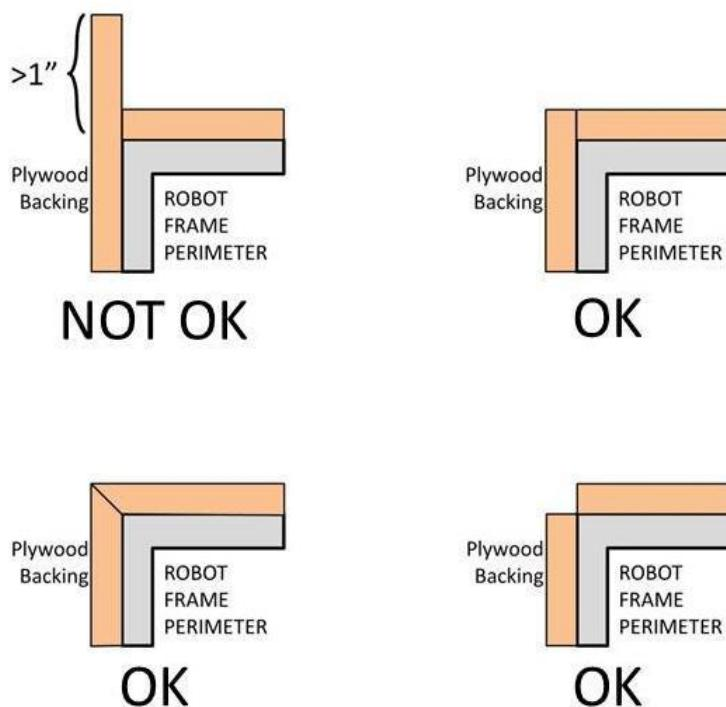

Figure 9-5 Hard parts of BUMPER corners
- B. hard BUMPER parts allowed per R24-A, -E, -F, and -G must not extend more than 1 in. (~25 mm) beyond the FRAME PERIMETER (measured as shown in Figure 9-5).